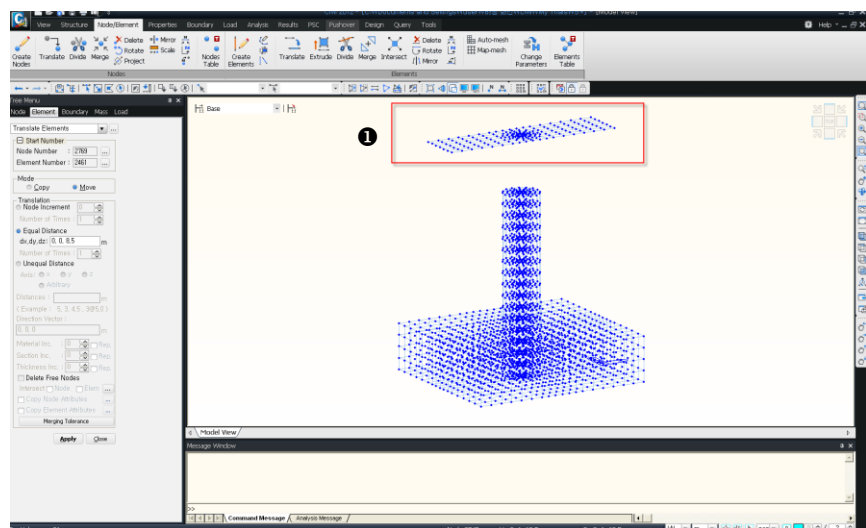

Figure 5.13 Coping Part at the Column
Activate Fig.5.13-① to initiate the modeling of the coping.
1. Click  **Select Window** and select Fig.5.13-①.